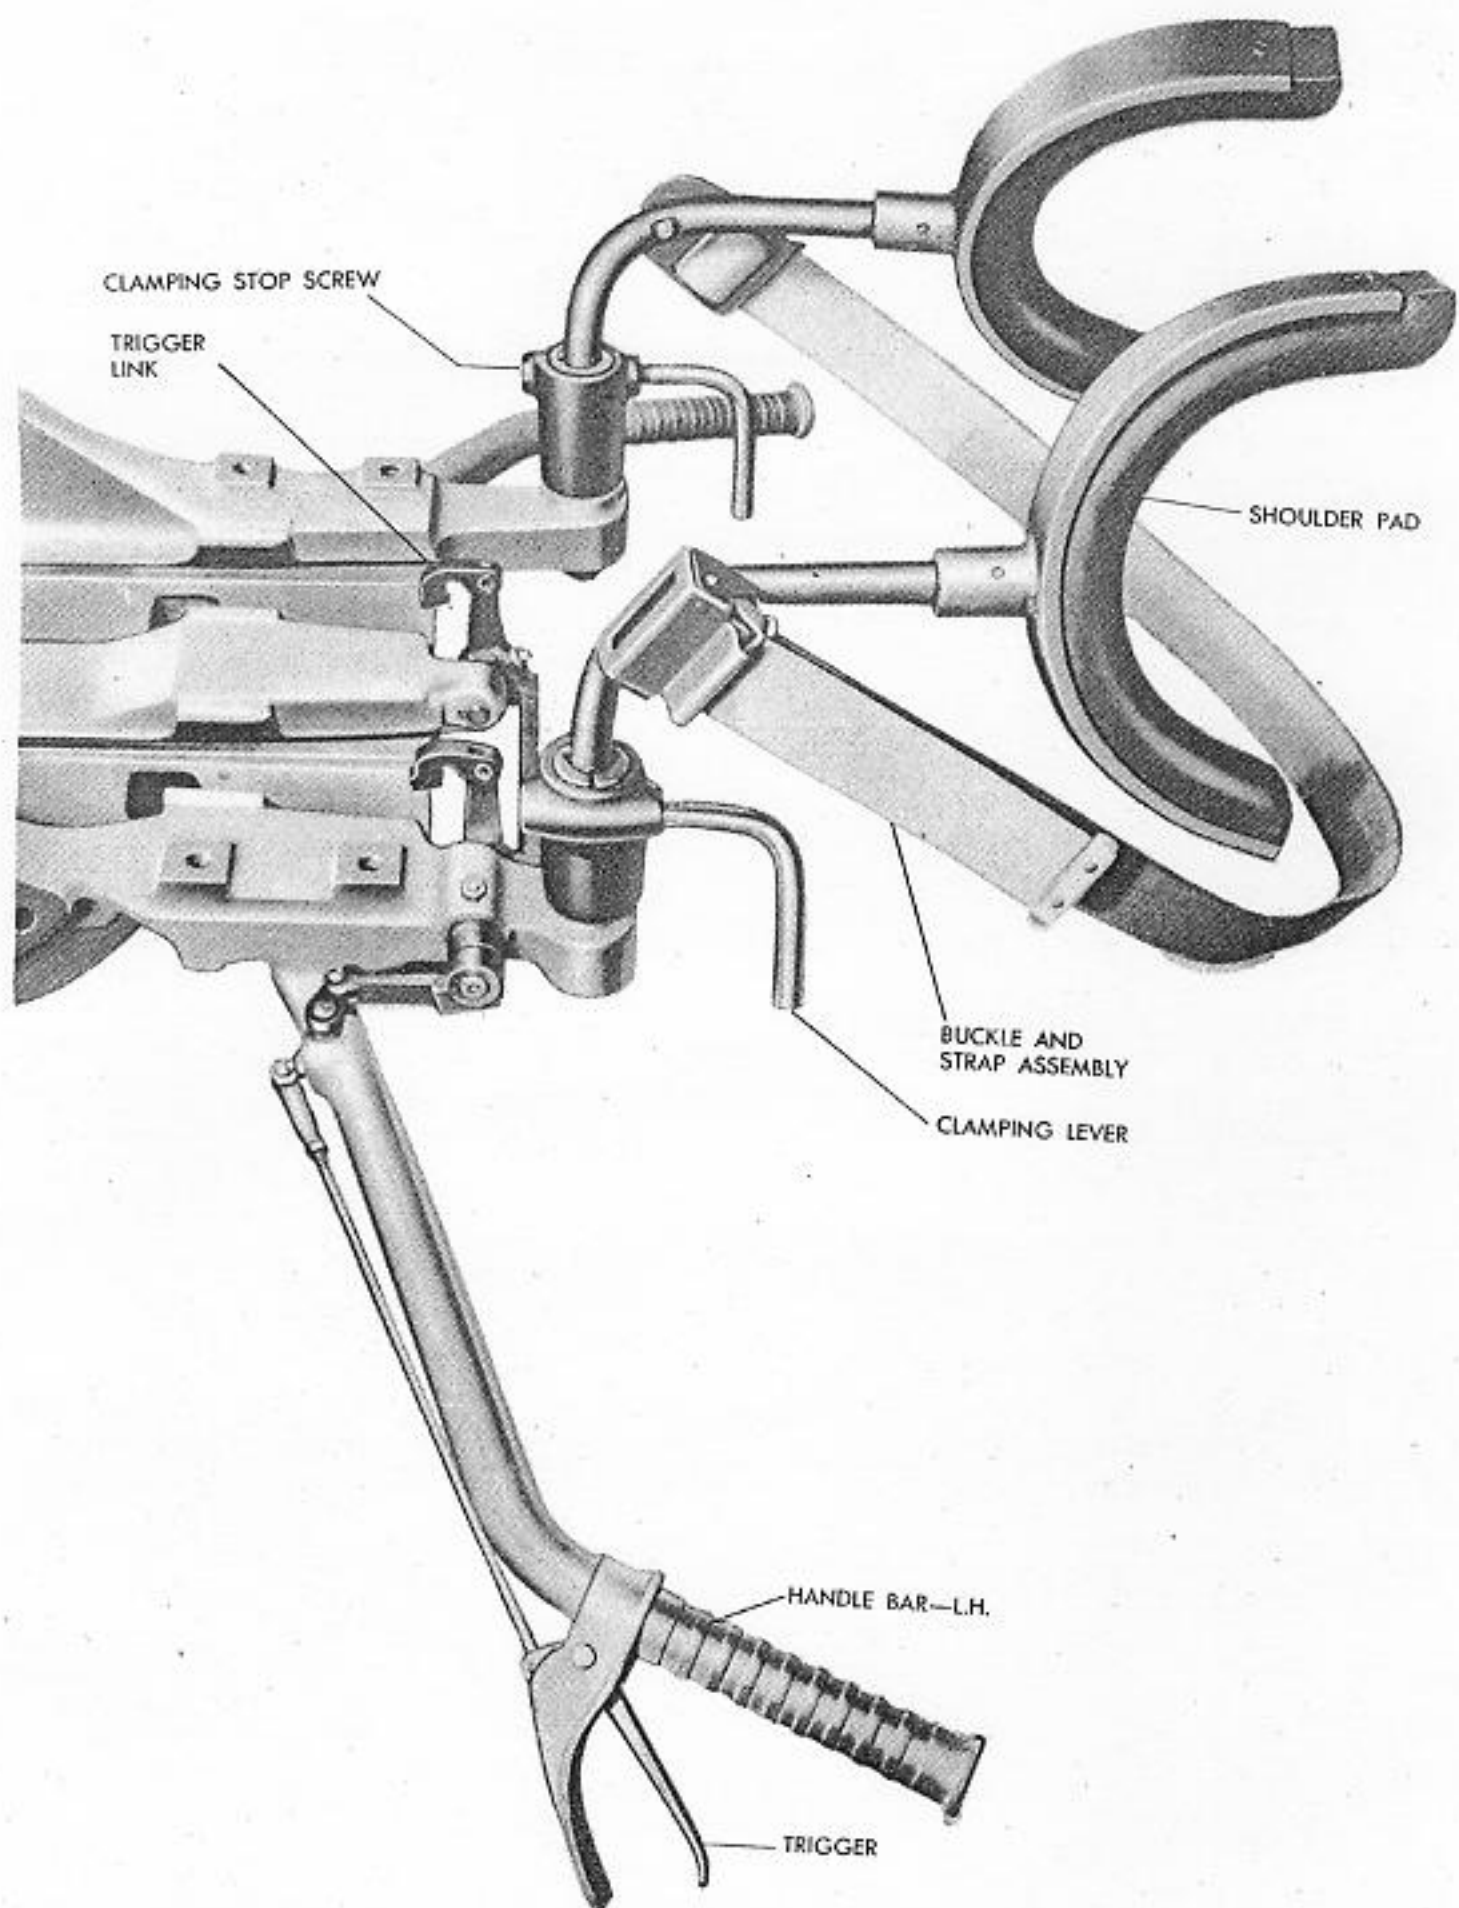

Figure 31. 20-mm Shoulder Rests and Handle Bars Mk 8 Mod 0.
These shoulder rests and handle bars (see Fig. 31) differ considerably from earlier 20-mm designs. The two units are designed to be used together, to control the increased weight of the twin gun installations of the Gun Mounts Mk 20 and Mods and Mk 24 and Mods. The shoulder rests are mounted on extensions at the rear corners of the cradle and are independent of the gun-mechanism breech casings. The handle bars are bolted to the cradle by four self-locking screws, at bosses provided on the under side of the cradle. The left handle bar is fitted with a trigger and trigger mechanism for firing the guns, in conjunction with the trigger parts on the rear of the cradle.
3. **Frame Brackets.** Slide the shoulder-rest frame brackets (487489) over the bushings and secure by installing the clamping lever (454141) and clamp stop screws (299894-5). The brackets should be turned on the supports so that the clamping levers will be to the rear of the assembly and outside the bushings when installed on the cradle. See Fig. 31.
5. **Cradle.** Insert a shoulder-rest locating key (482531) in each frame bracket and assemble the shoulder rests on the cradle, securing each one with a nut (482524) and flat washer (299888-5).